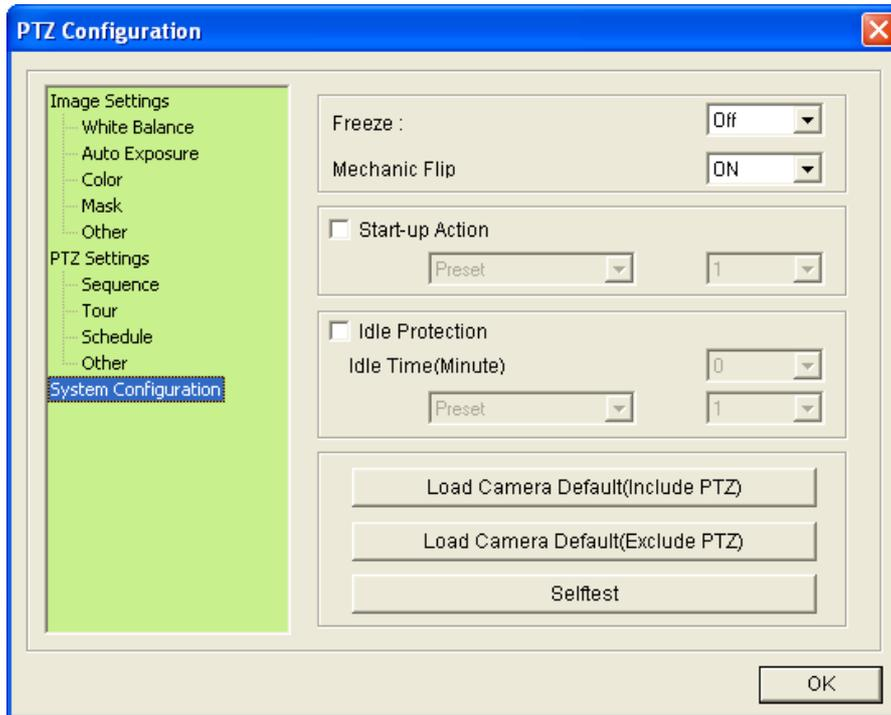

Figure 5-13
- **Load Camera Default (Include PTZ):** Click the button to restore default settings to all the settings in PTZ Configuration dialog box (Figure 5-13).
- **Load Camera Default (Exclude PTZ):** Click the button to restore default settings to Image Settings and System Configuration in PTZ Configuration dialog box (Figure 5-13).